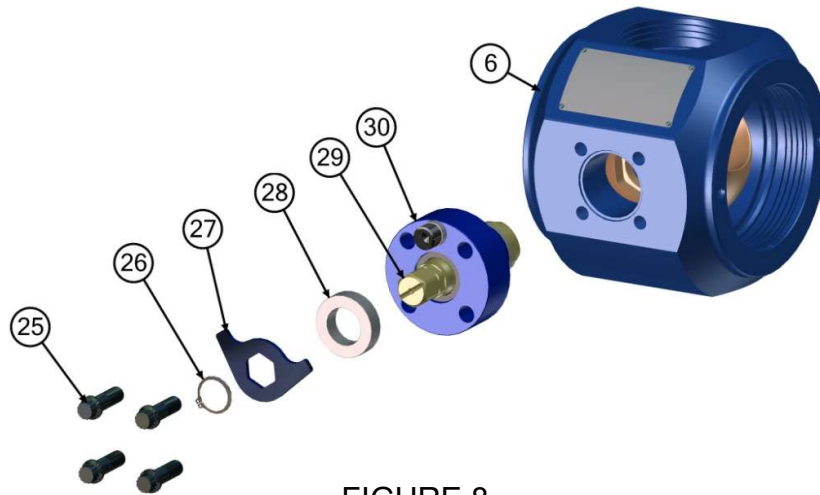

FIGURE 8
- 1) Mark the main body (6) (**FIGURE 8**) and stuffing box (30) to identify the orientation for a reassembly.
- 2) Remove the stuffing box mounting bolts or nuts (25).
- 3) Remove the retaining ring (26), stem stop (27), and spacer ring (28) (only on 2" and 3" valves).
- 4) Remove the stuffing box from the valve body with the stem (29). On occasion the stem will be left in the ball because of a tight fit between the spigot of the stem and locator bore in the ball.